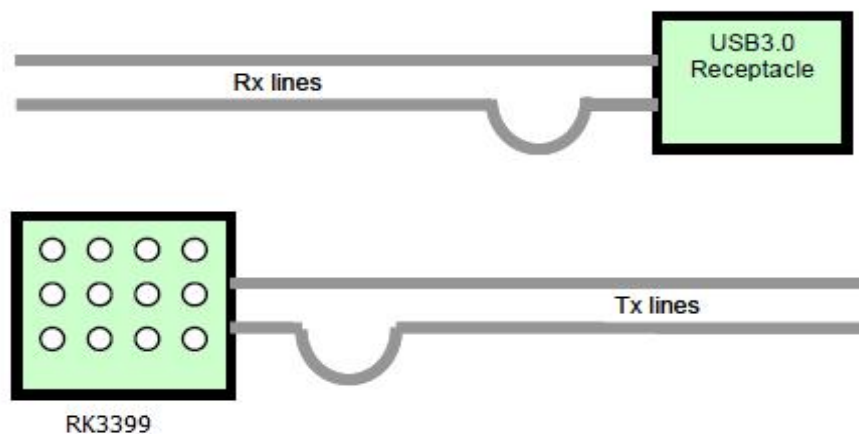

Figure 4-27 USB Signals Delay Requirements 1
- The delayed serpentine traces of SS_TX and SS_RX signal should be placed as close as possible to the source. Shown as Figure 4-27.